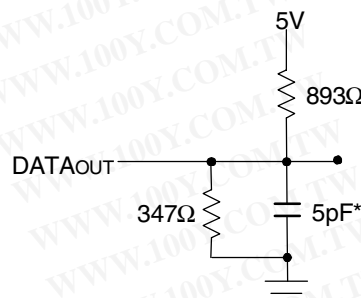

Figure 2. Output Test Load
1. Transition is measured 0mV from Low or High-impedance voltage with Output Test Load (Figure 2).
- Transition is measured 0mV from Low or High-impedance voltage with the Output Test Load (Figure 2).